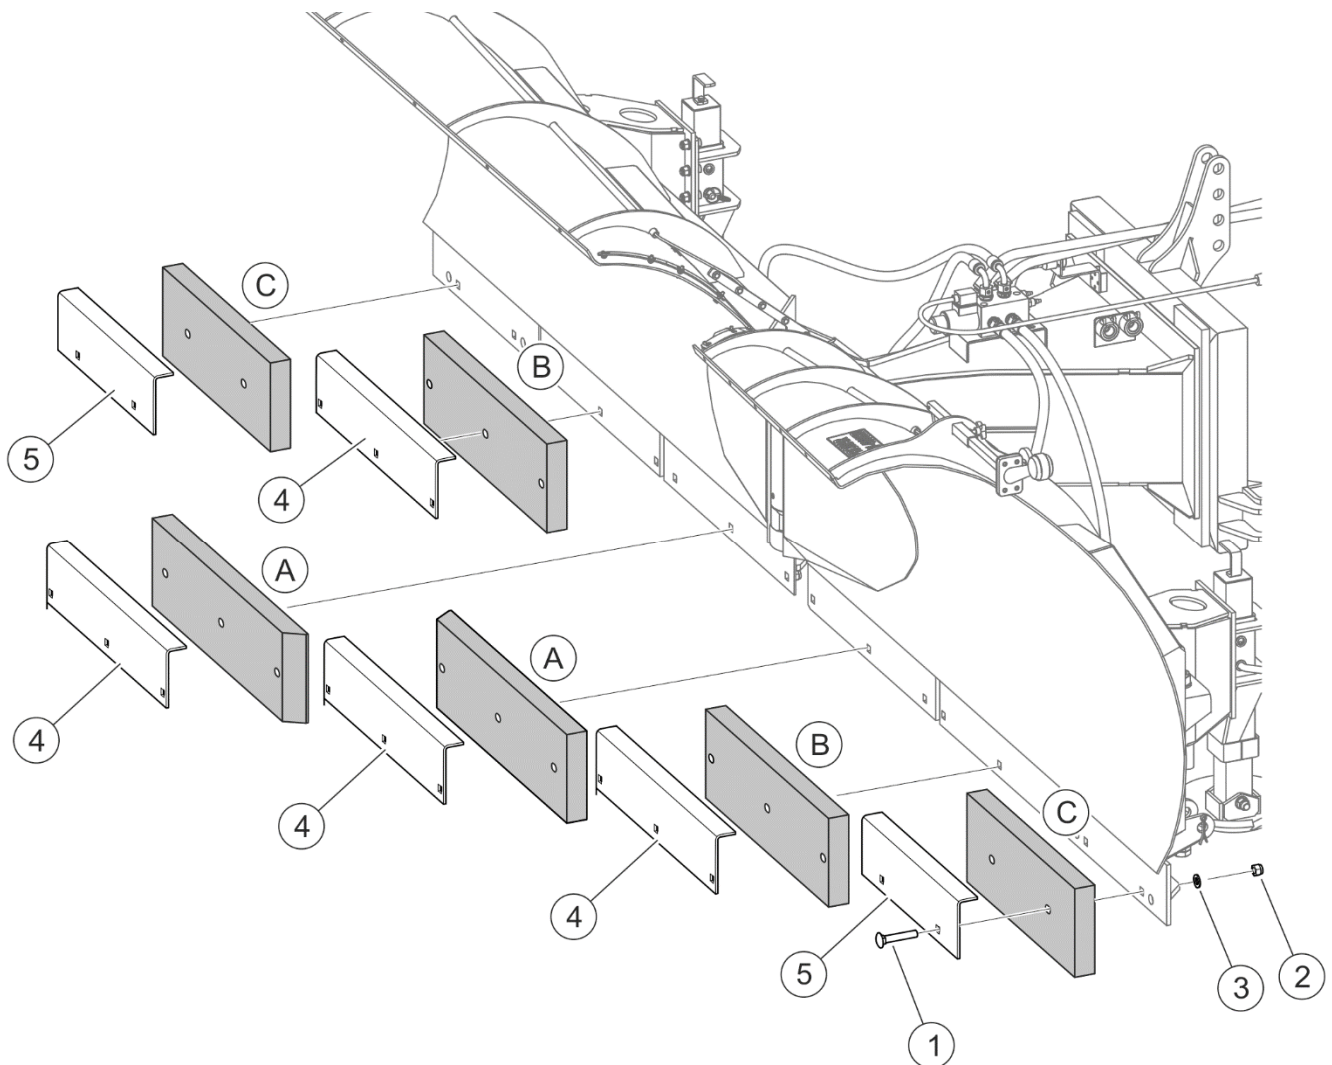
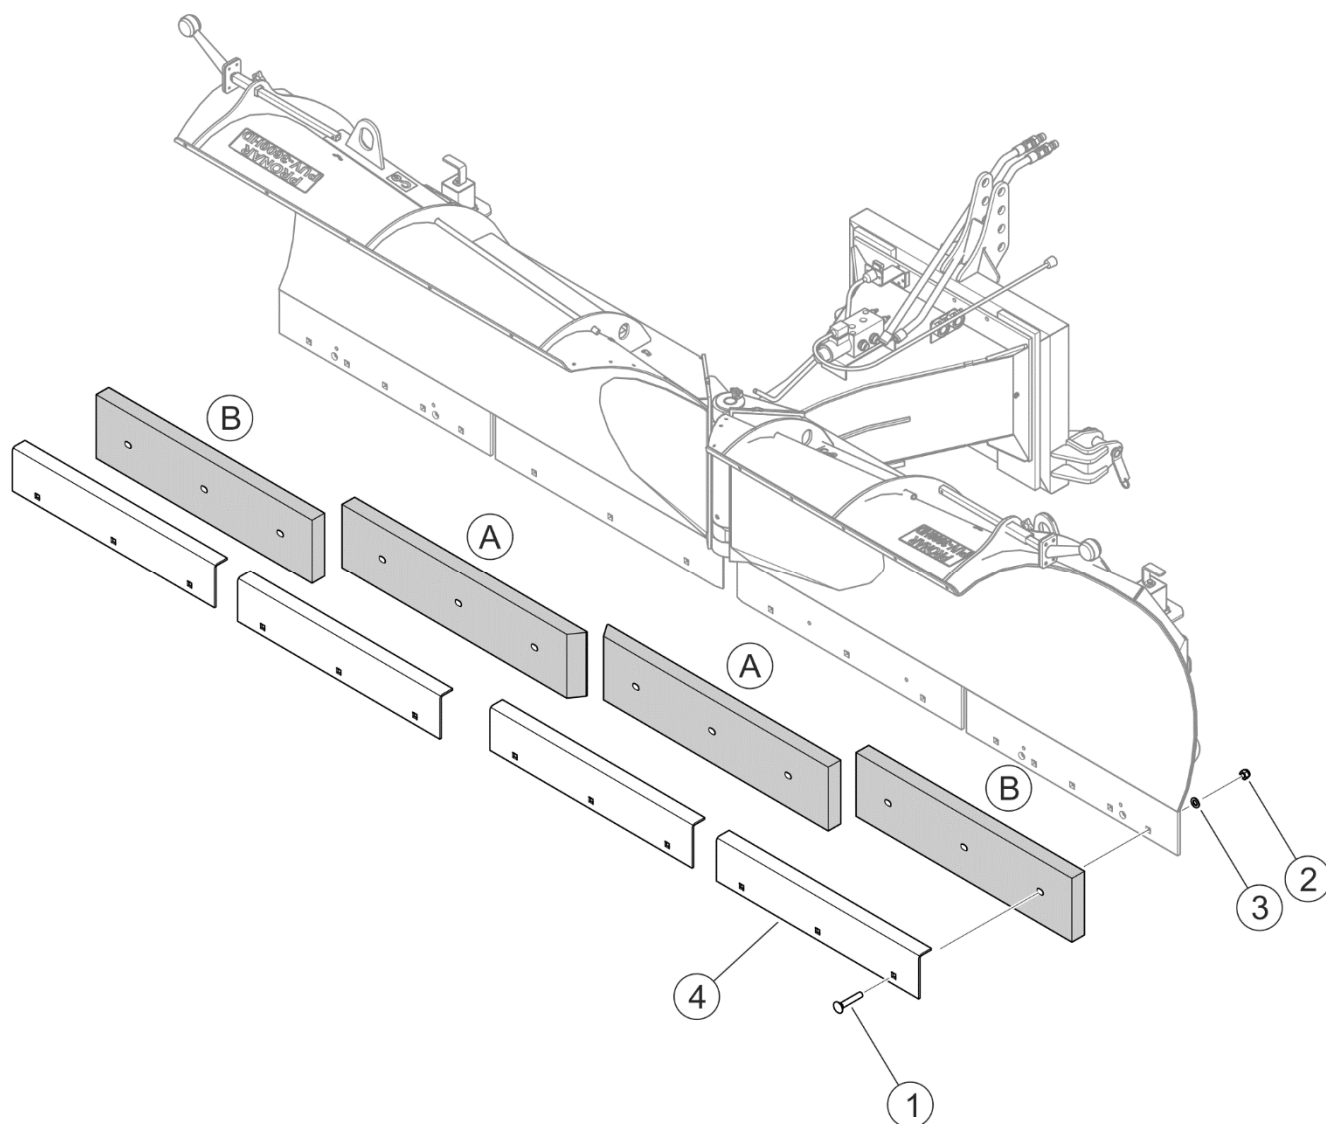

FIGURE 5.5 Replacement of PUV-400HD rubber blades (option)
FIGURE 5.6 Replacement of PUV-3600HD rubber blades (option)
* - used as external blade instead of (B) blade
In the snow ploughs equipped with rubber collecting blades (FIGURE 5.5, FIGURE 5.6), rubber blade segments are fixed with bolts (1) using cover plates (4) and (5). In order to replace blades, undo individual nuts (2), take out bolts (1) and remove cover plates (4) or (5). Install a new blade in reverse order.
| Marking FIGURE 5.5 | Name / catalogue No. | Quantity [pcs] |
| Marking FIGURE 5.6 | Name / catalogue No. | Quantity [pcs] |